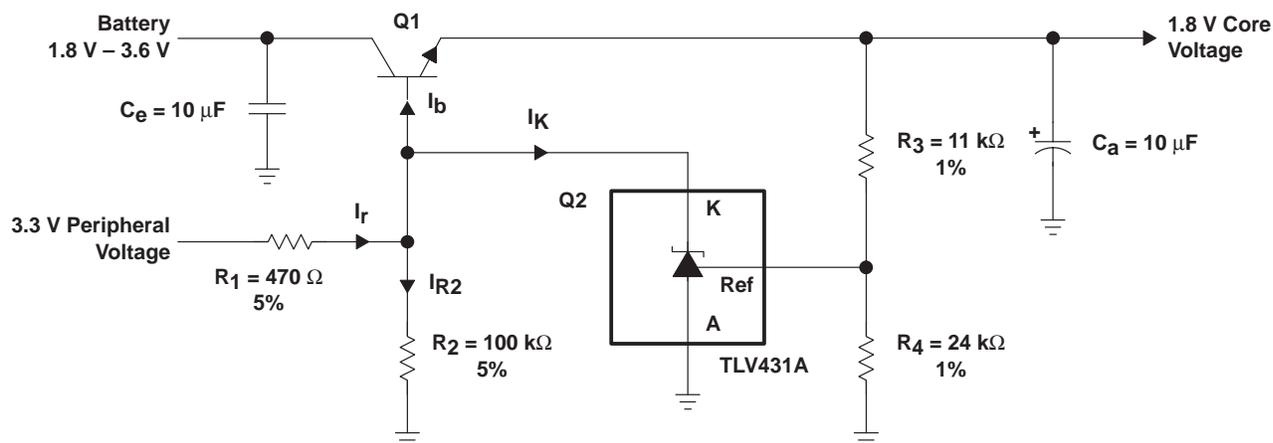

Figure 58. Discrete 1.8-V LDO
- If needed, Q1 can be operated in saturation since its base current is driven by a higher voltage (3.3 V) that is independent of the collector voltage. In this way, a small dropout voltage of the 1.8-V regulator of about 100 mV at 100 mA load can be achieved. The level of the control current (I_r) which represents the base current when the NPN transistor is operated in saturation, defines the saturation voltage. In the circuit of Figure 58, a control current of about 1.8 mA was chosen. This represents a good compromise between the achievable saturation voltage and the additional current consumption of the 3.3-V charge pump.
The linear regulator given in Figure 58 for the 1.8-V *core* voltage has the following properties: